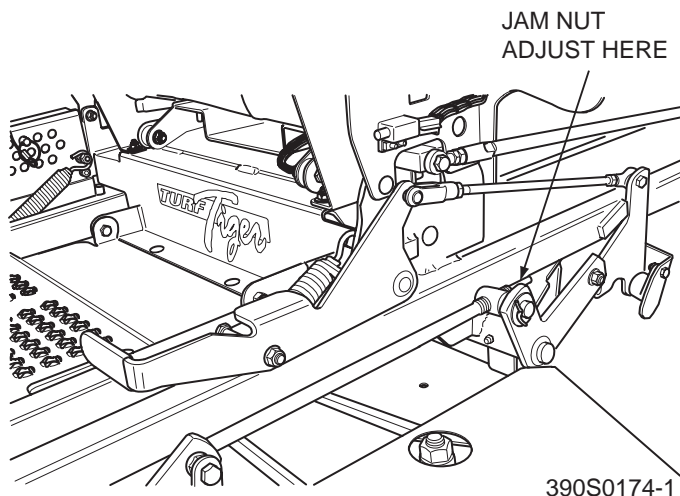

Figure 6-5. Cutter Deck Adjustment
1. Loosen the jam nut on both adjusting rods. (See Figure 6.5)
2. Using a wrench on the jam nut (See Figure 6.5) turn the adjusting rods until the proper pitch is obtained on both the RH and the LH side of the cutter deck. Tighten both jam nuts.